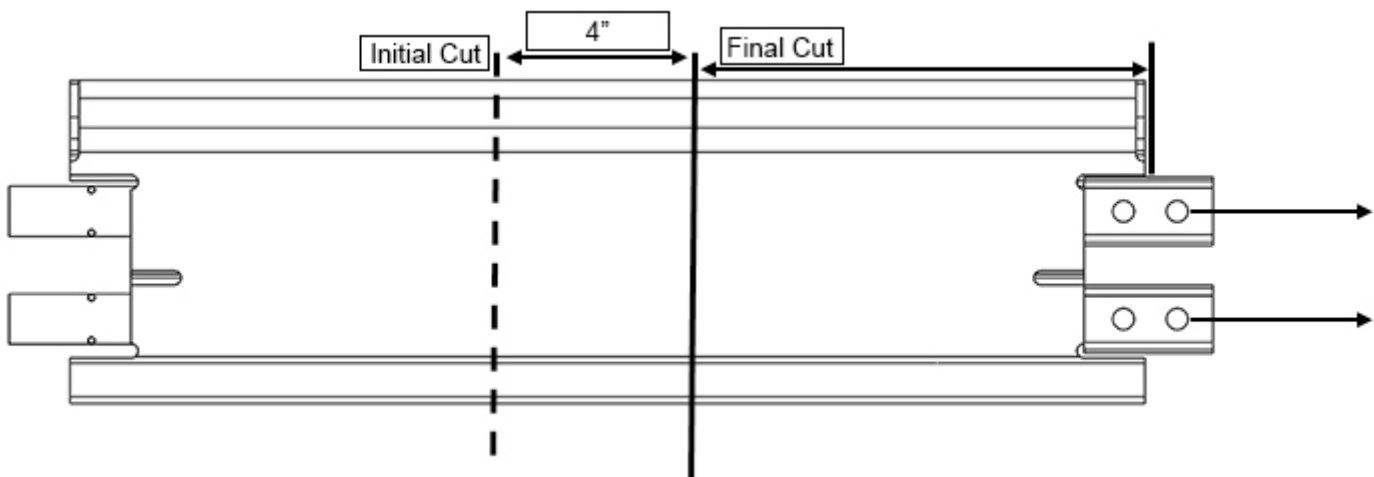

Figure 36: Side View (200 A)
1. Cut the line element at least 4" longer than necessary (Figure 36).
2. Pull conductors inside far enough so that the final cut does not recut the conductors (Figure 36).